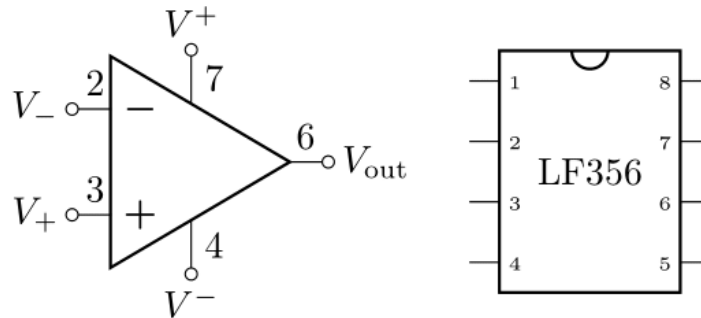

Figure 9: Pin diagram for LF356 (left). The numbers correspond to the corresponding pin on the DIP chip (right)
7. Always have a diagram of your circuit with pin numbers labeled (like the left side of Figure 9).